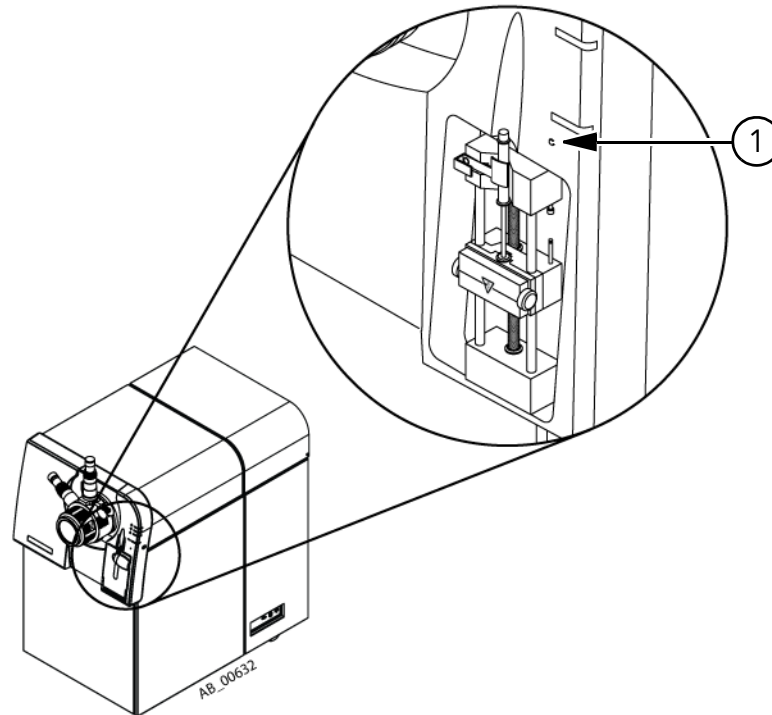

Figure 2-4 Syringe pump reset button
- Use a paper clip or similar tool to press the reset button, shown in Figure 2-4.